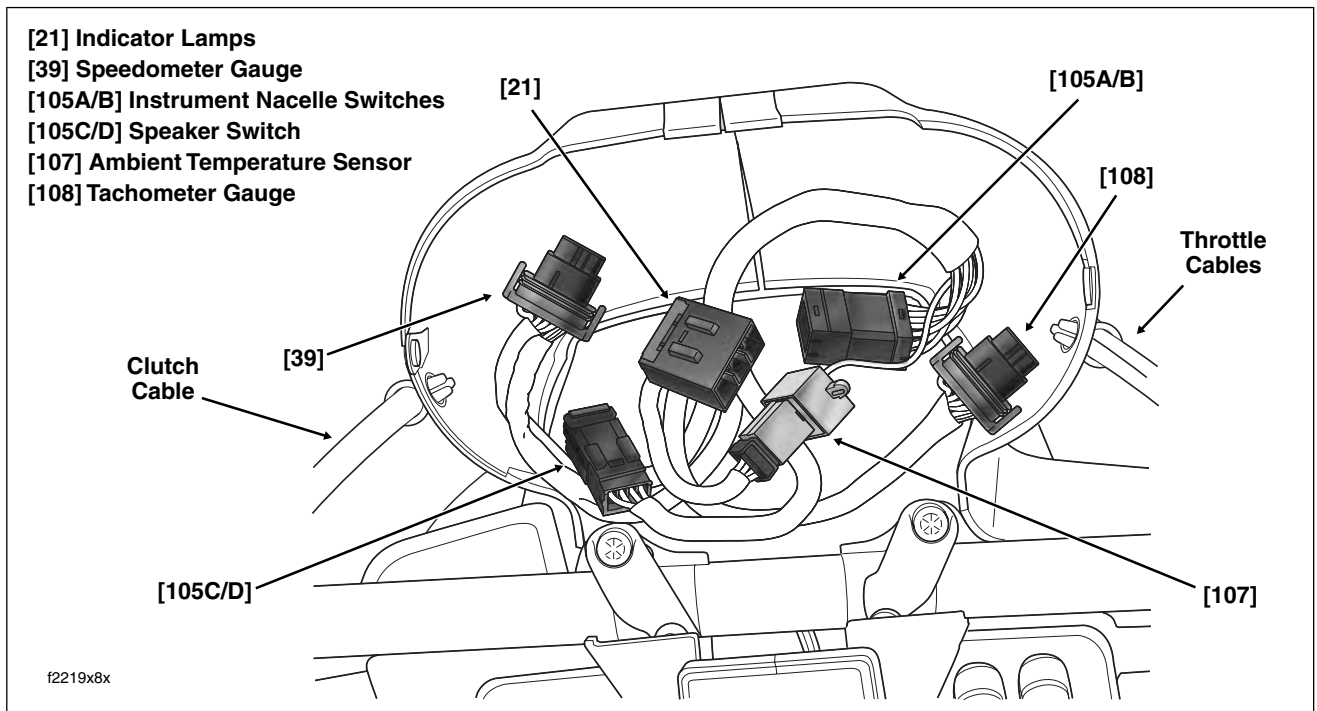

Figure 2-177. Instrument Nacelle (Bezel Removed)
4. See Figure 2-177. Disconnect instruments and indicator lamps from interconnect harness as follows:
1. See Figure 2-177. Looking into the instrument nacelle, connect instruments and indicator lamps to interconnect harness as follows:
3. See Figure 2-177. Disconnect left side switch from instrument nacelle switch harness as follows:
- See Figure 2-177. Disconnect instrument nacelle switches and ambient temperature sensor from interconnect harness as follows:
- See Figure 2-177. Draw branches of interconnect harness (terminating in odometer reset switch and speedometer, tachometer, indicator lamps, instrument nacelle switch and ambient temperature sensor connectors) from instrument nacelle through tunnel of fairing bracket to front of inner fairing.